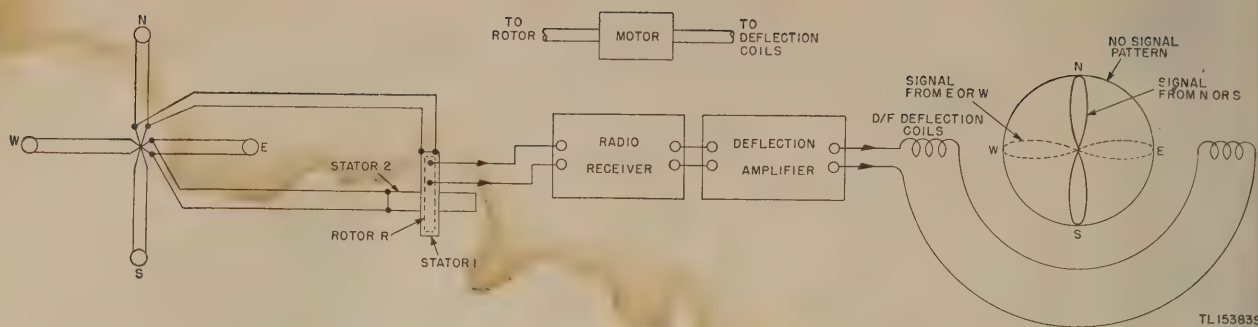
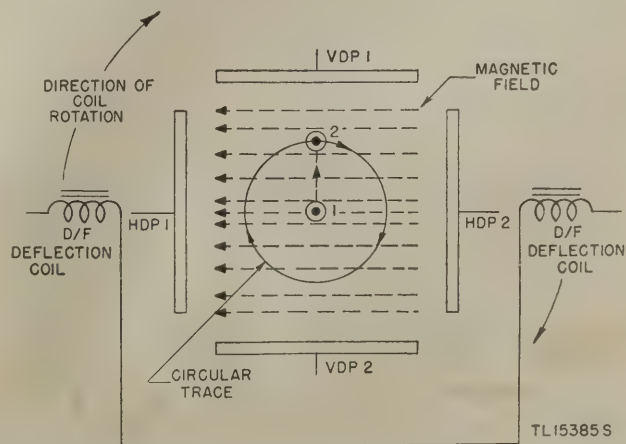

Figure 134. Development of directional pattern, simplified diagram.
Figure 136. Development of circular trace, simplified diagram.
*a. GENERAL.* A plan-view schematic of the radio set monopoles is shown in figure 134. The N and S monopoles form one U-Adcock type antenna which is crossed by a second U-Adcock antenna comprised of the E and W monopoles. For simplicity the r-f lines from the antennas are shown schematically; the cross-overs in the E-W and N-S lines represent the phase-opposition connections.
*b. SIGNAL ARRIVING FROM NORTH.* When a signal arrives from the north, the plane of the N-S U-Adcock antenna is at right angles to the wave front and the output to stator 1 is maximum. At the same time, the plane of the E-W U-Adcock antenna is broadside to the arriving wave front; consequently, there is no output voltage to stator 2. The solid-line N-S pattern (fig. 134) appears on the scope.
d. **SIGNAL FROM EAST.** When a signal arrives from the east, the plane of the N-S antenna is broadside to the arriving wave front and there is no output to stator 1. At the same time, however, the vertical plane of the E-W antenna is maximum to stator 2. Under this condition the E-W pattern (broken line in figure 134) appears on the scope.
*a. DEVELOPMENT OF CIRCULAR TRACE.* In the absence of signal voltages the bearing indicator scope screen pattern is a circular trace (fig. 134). The D/F deflection coils are rotated about the cathode-ray tube, and the cathode-ray beam must pass through the magnetic field between them (fig. 136). Assume that there is no current through the deflection coils and that electrons in the beam are traveling out of the paper toward the reader. Under this condition the horizontal and vertical deflection plate voltages can be adjusted to bring the spot to point 1 on the screen. With the spot centered at 1, and with the coils *stationary* in the position shown, current passing through the coils creates a magnetic field in the direction indicated. The interaction between this field and the magnetic field produced by the beam current (moving electrons) forces the beam upward and the spot appears at point 2 on the screen. If the deflection coils are now rotated clockwise, their magnetic field must rotate with them, and the spot must trace a circle on the scope screen. The circle diameter can be increased by increasing the current through the deflection coils. The position of the circle can be adjusted by means of the horizontal and vertical positioning controls.